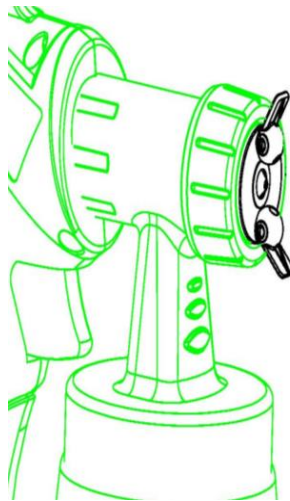

Fig 2
- When coating material builds up on the nozzle (A) and air cap (B) (**Fig.2**), clean both parts with a solvent or water.